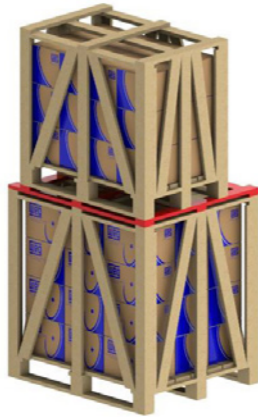

Figure 5.5 – Use of additional battens for stacking
4) When stacking smaller crates onto longer crates, always ensure that suitable wooden supports are provided to withstand the weight (see Figure 5.5). This condition usually occurs with motor packaging above IEC 225S/M (NEMA 364/5T) frame sizes.